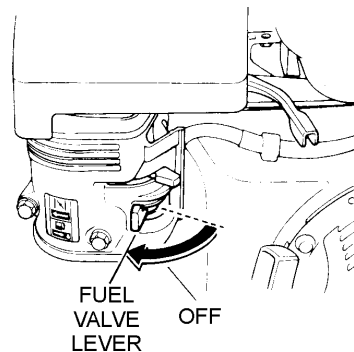

Figure 18. Fuel Valve Lever (OFF)
3. Place the fuel shut-off lever (See Figure 18) in the **OFF** position